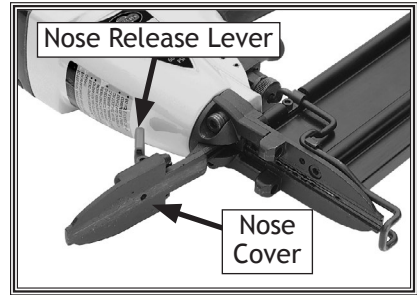

Figure 5. Example of the nose being opened to clear a jam.
4. Open the nailer nose with the nose release lever (see Figure 5).